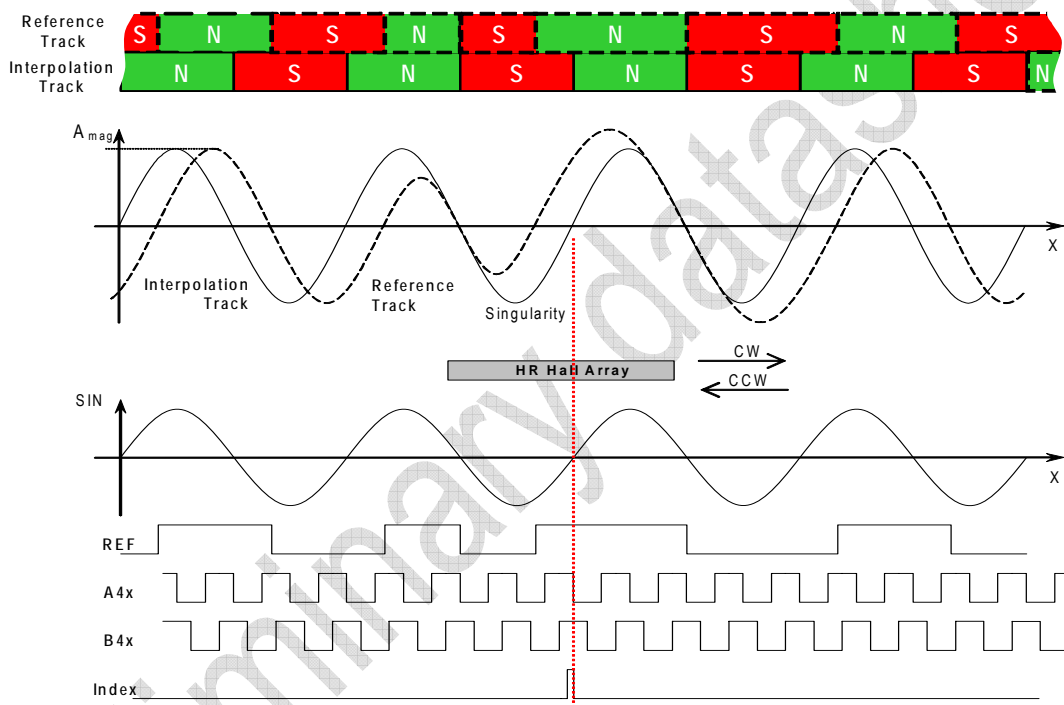

Figure 5 Incremental A/B Output with reference pulse C (shown are 4 pulses per period for clarity)
The Hall elements on the MPS40S are arranged in a linear array of up to 16 sensors. In addition a smaller, second array is available to read a reference track for generating index pulses. These index pulses allow absolute position measurement, e.g. by resetting a counter with these index pulses and counting the A and B pulses from that position (see Figure 5).
The digital output is compatible to optical incremental encoder outputs. Direction of rotation is encoded into two signals A and B that are phase-shifted by 90°. Depending on the direction of rotation, A leads B (CW) or B leads A (CCW), see Figure 5.
A reference signal (Index) is added if the magnetic input field is positive at the positive zero crossing of the high resolution magnetic input. As shown in Figure 5, the S/N-transition of the interpolation track in clockwise direction always occurs at a S-pole of the reference track, except at the Index position (in the center of the picture), where the S/N transition coincides with a N-Pole of the reference track. This unique configuration is detected and an index pulse is generated at this position.